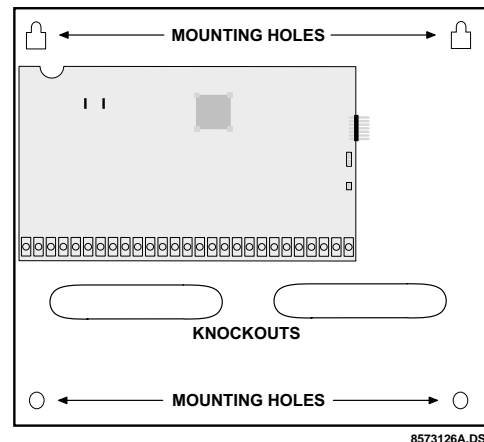

Figure 2. Mounting the Panel (Hardwire Panel Shown—Combination Hardwire/Wireless Panel Similar)
1. Open the panel door and remove the necessary wiring knockouts (see Figure 2). Be careful not to damage the circuit board.
3. Level the panel and mark the top and bottom mounting holes (see Figure 2).